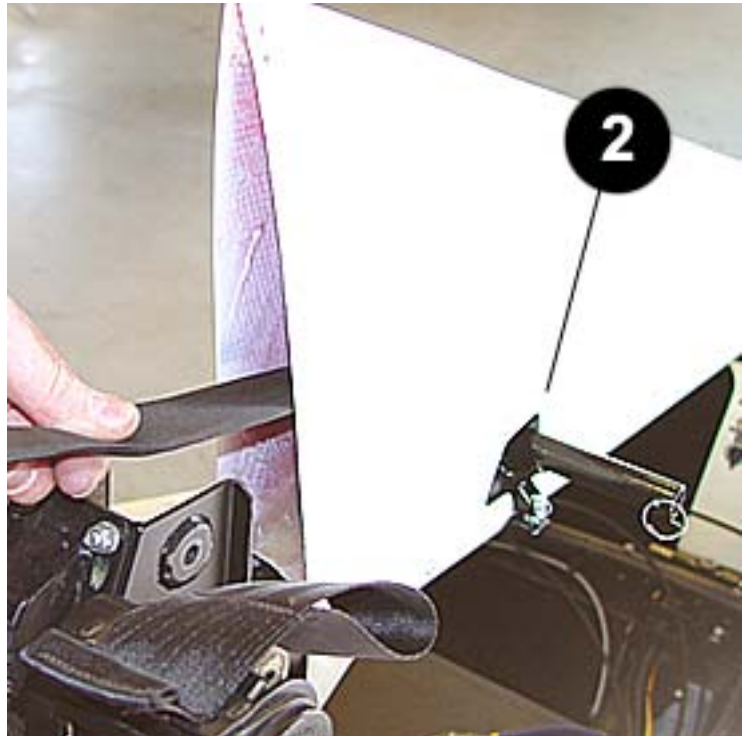

Figure 2-23
- 2.15 Attach the 84" Safety Harness to the seat belt tube-bracket, inside the fairing. The attachment point of the Safety Harness is illustrated in Figure 2-23 as ②.